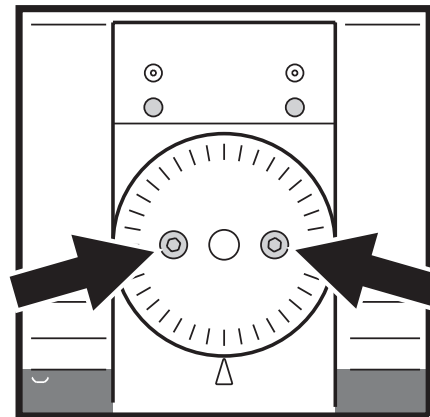

Figure 16: Tilt lock screws
5. Support the luminaire to ensure that it cannot tilt unexpectedly under its own weight. See Figure 16. Loosen the tilt lock screws on each side of the mounting yoke.